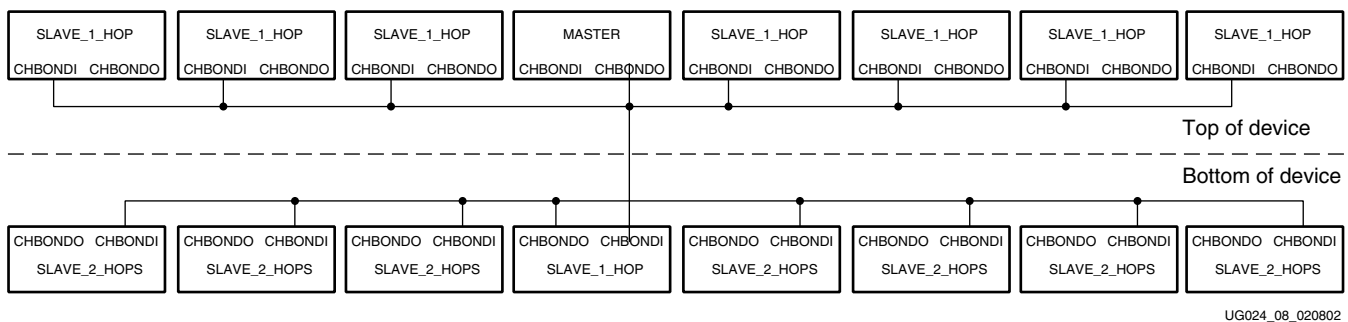

Figure 5-2: 2VP50 Implementation
Figure 5-2 shows the channel bonding mode and linking for a 2VP50, which contains more transceivers (16) per chip. To ensure the timing is met on the link between the CHBONDO